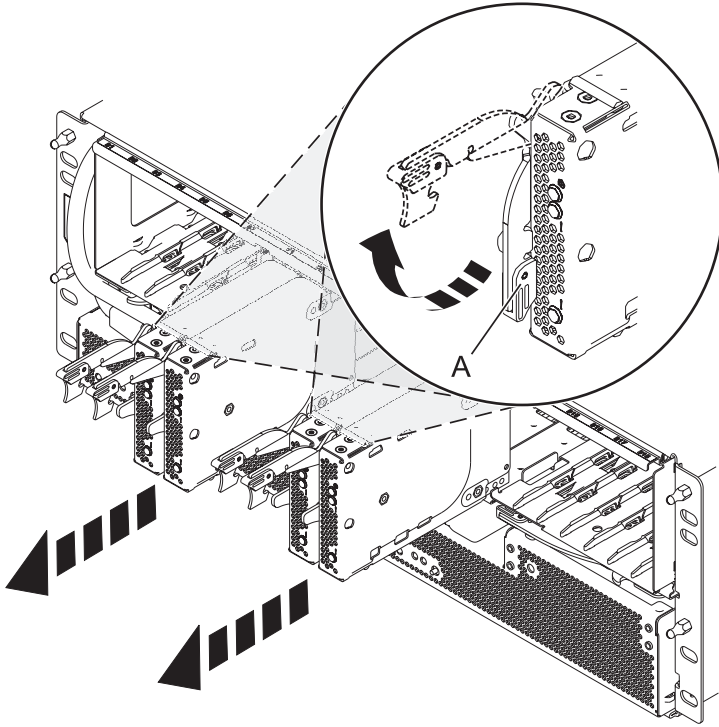

Figure 63. Removing the port card from the backplane
5. Remove the port cards and fillers as shown in Figure 63 on page 82.